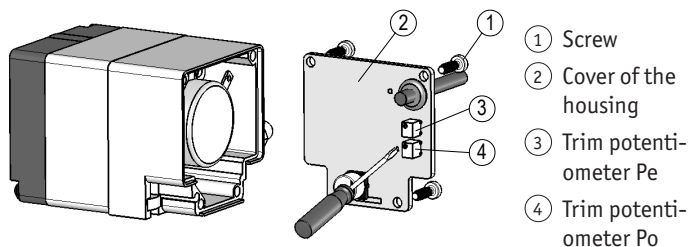

Fig. 6: Setting up the trim potentiometers MWI
### Setting the instrument transformer (Fig. 6)
Via two trim potentiometers Pe (3) and Po (4) (see Fig. 6), these values can be adjusted to the application's actual start and end position.
1. Unscrew the screws (1) and open the cover of the housing (2).
2. Adjust the trim potentiometers Pe (3) and Po (4).